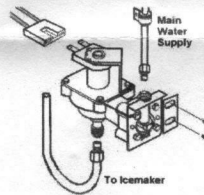

Figure 10
18. Use plastic compression nut for the plastic supply line that goes to the icemaker. As pictured in Figure 10. Use caution not to cross thread the compression nut. Do not over tighten.
19. Attach main water supply to the top of the valve as pictured in Figure 10. There is a brass compression nut and compression sleeve included in this kit. Use caution not to cross thread the compression nut. Do not over tighten.
23. Using the clamp and screw provided in this kit, make sure the main water supply line is securely attached to the refrigerator frame. (See Figure 10) This is done to relieve any pull stress on the water valve.